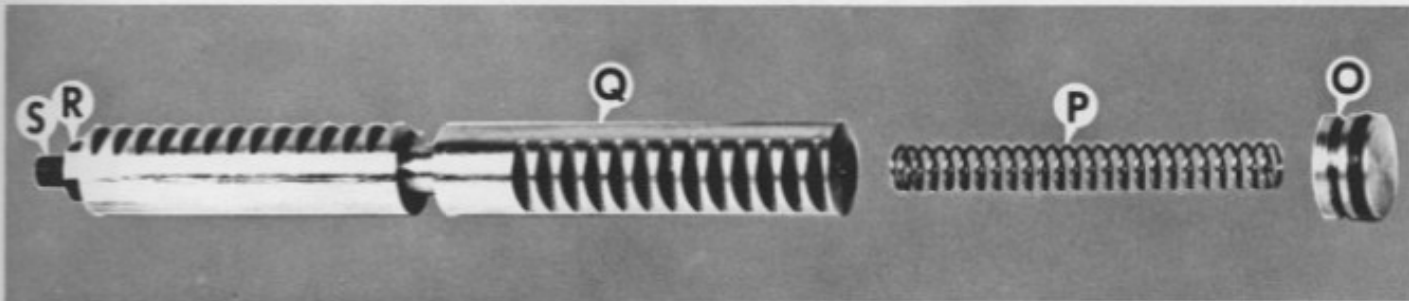

Figure 77 — Turret Rack and Components
7. Remove plug "O", Figure 74, spring "P", Figure 77, and rack "Q". Do not disturb adjusting screw "S" which determines rack travel.
7. Coat rack "Q", Figure 77, with Mobil Vactra Oil #2 or equivalent. Replace rack "Q", spring "P", plug "O", screw "N", Figure 74, and lock nut "M". **NOTE:** If adjusting screw "S", Figure 77, has been disturbed, it will be necessary to adjust screw "S" to limit rack travel to a point short of where teeth on gear "K", Figure 63, would hit non-toothed section of rack "Q".
- With rack "Q", Figure 75, at full travel, index lever in locked position and gear "U" turned to right, assemble stud "J" and bearing and gear "K". Should gear "K" fail to mesh or fork fail to lock securely in all stations, adjust screw "S", Figure 77.